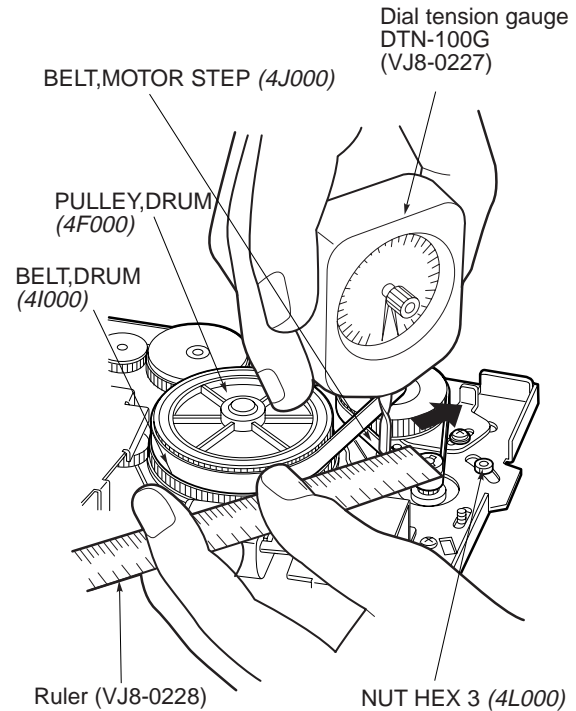

Fig. 3-6-2
1. Referring to Fig. 3-6-2, install the "ASSY, MOTOR STEPPING (4K000)" according to the following procedure.